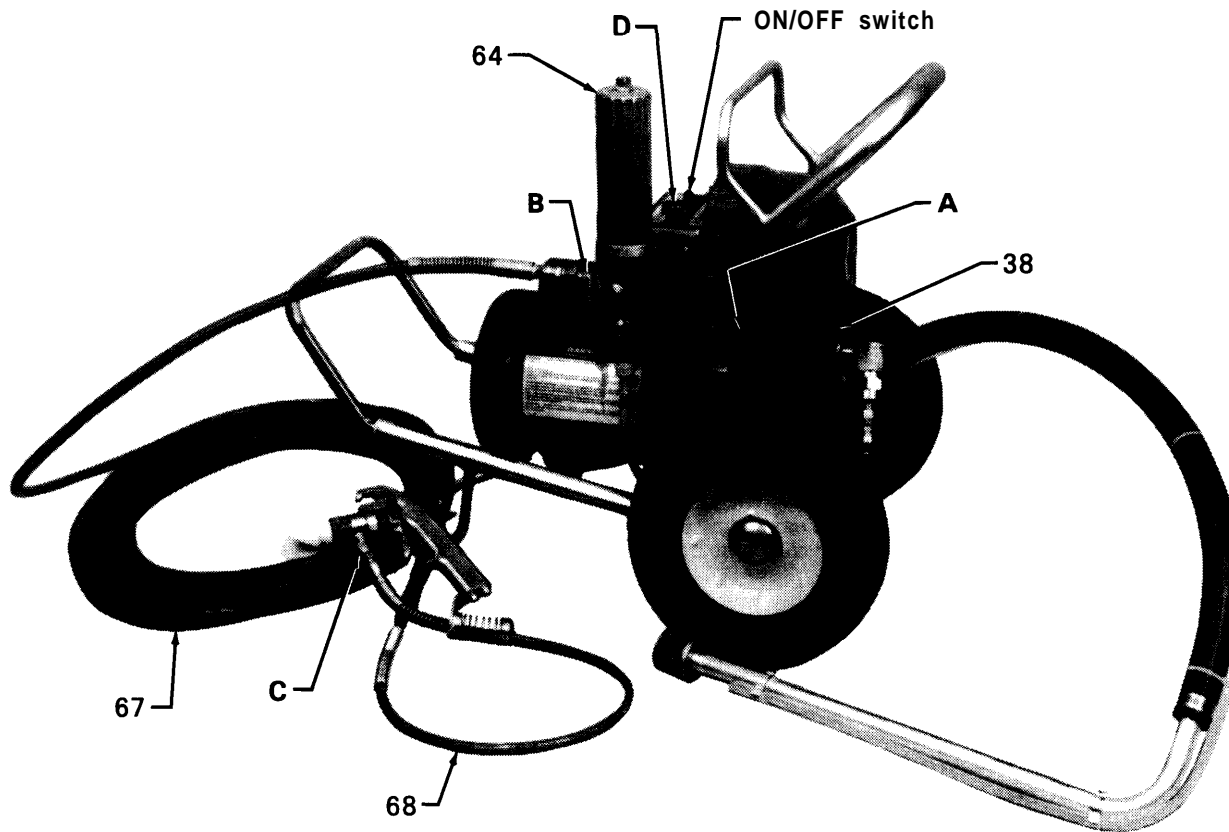

Fig 1
Remove the fill plug (A) and ensure that the oil level is up to the fill plug opening. See Fig 1.
3. Never install any shutoff device between the filter and the main hose. See Fig 1.
Be sure the ON/OFF switch is OFF. Refer to Fig 1. Then plug the cord into a grounded electrical outlet at least 20 ft (6 m) away from the spray area.